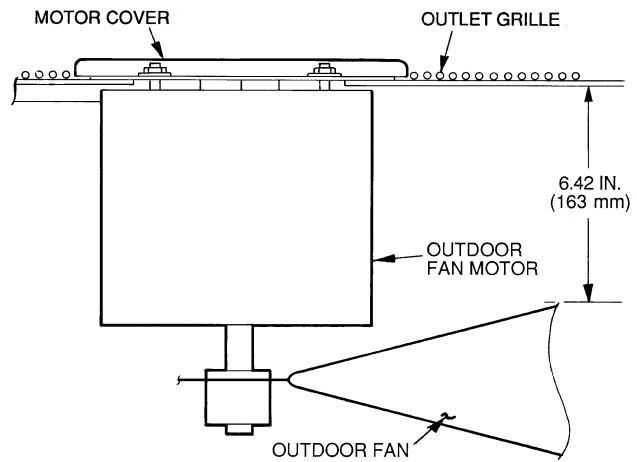

Fig. 15 — Outdoor-Fan Adjustment
Outdoor-Fan Adjustment (Fig. 15)
4. Adjust fan height as shown in Fig. 15.